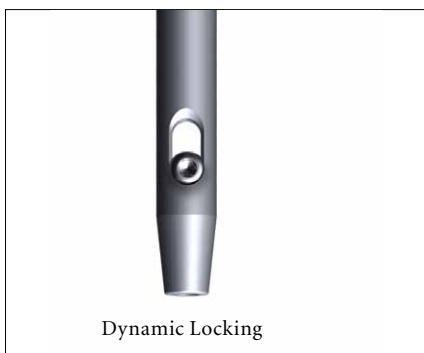

Fig. 1
- Locking in the distal part of the oblong hole creates a dynamic locking mechanism (see Fig. 1).